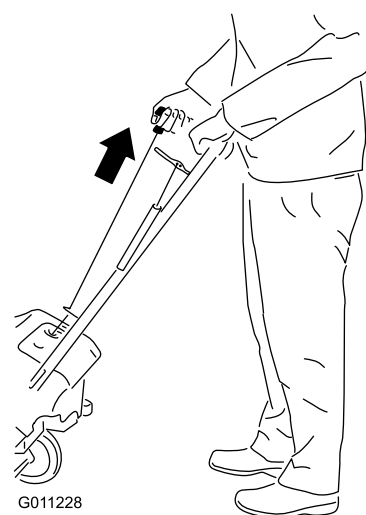

Figure 13
4. Pull the recoil start handle (Figure 13).